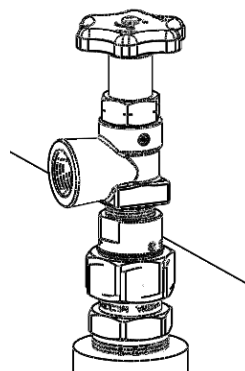

Figure 4
3. Once the Shutoff Valve Assembly is tightly attached to the Tank Valve (Figure 4), close the Shutoff Valve Assembly. A popping sound actuating the Tank Valve will occur while closing the Shutoff Valve Assembly, allowing the flow to be controlled by the Shutoff Assembly. *If the Tank Valve does not open after following steps 1-3, increase pressure downstream (Shutoff Valve side) to equalize pressure in the Tank Valve.*